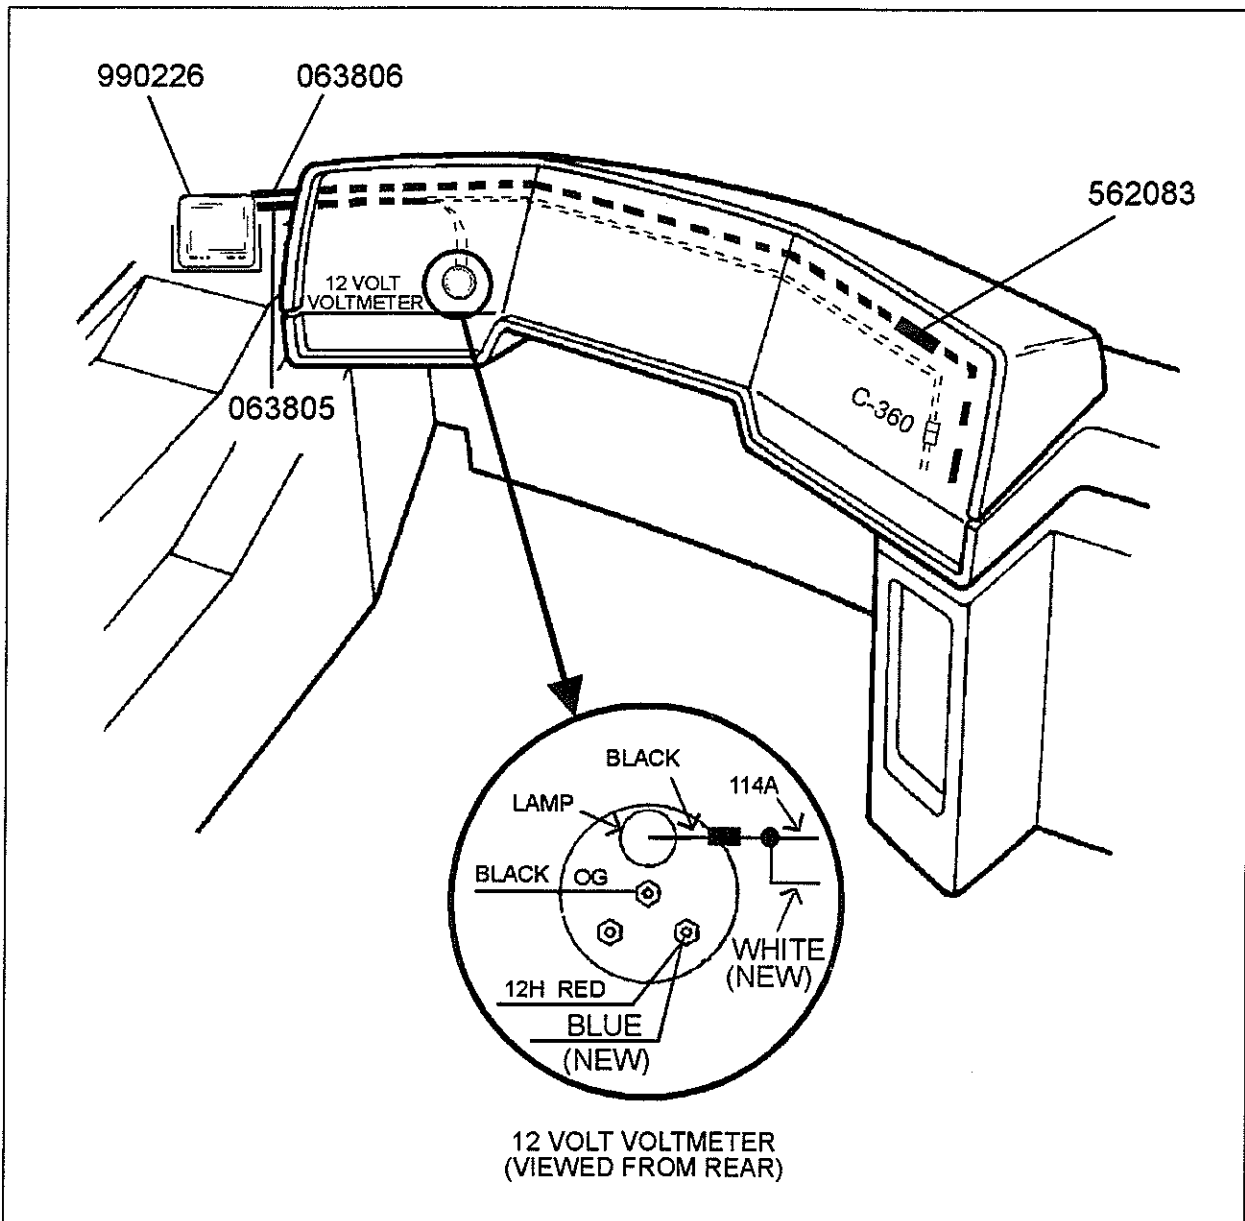

FIGURE 3
12. Connect both wires and connector C-360 of wiring harness #063805 as illustrated in figure 3.